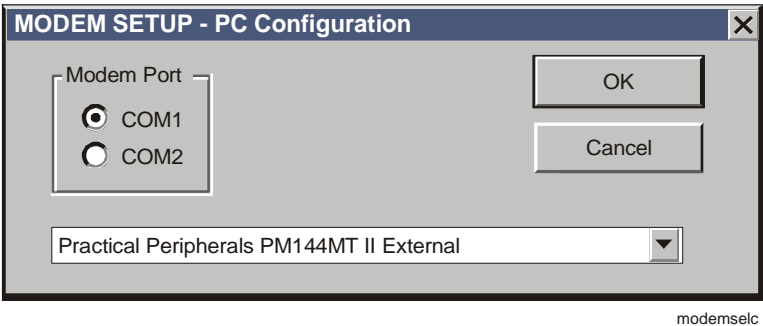

Figure 23: Modem Setup-PC Configuration Dialog Box
3. Select the Modem Setup button and the Modem Setup-PC Configuration dialog box appears (Figure 23). The dialog box shows a communication port selection and a drop-down list box selection that displays a list of currently supported modems.